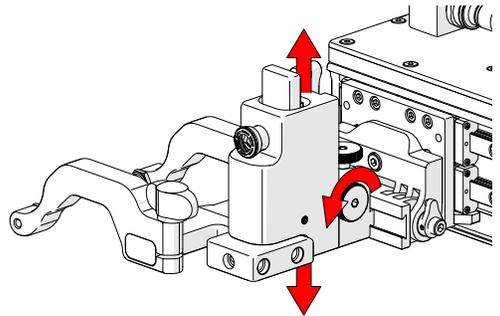

Fig. 45 - Vertical adjustment
2. The vertical adjustment knob (Fig. 45) allows the heavy duty vertical probe holder's height adjustment. This adjustment also controls the probe holder's spring tension.